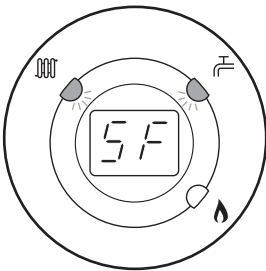

Fig. 56
4. The display will now alternate between 'SF' and the current boiler temperature and both green LEDs will flash (Figs. 56 & 57).